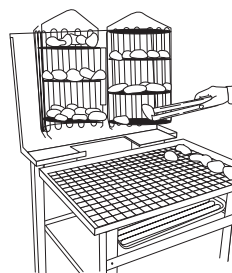

FIGURE 14
8. **Unload Basket** (Figure 14). Place cooked products on corrugated tray and turn cavity (bone) down where applicable. Place tray in holding cabinet.